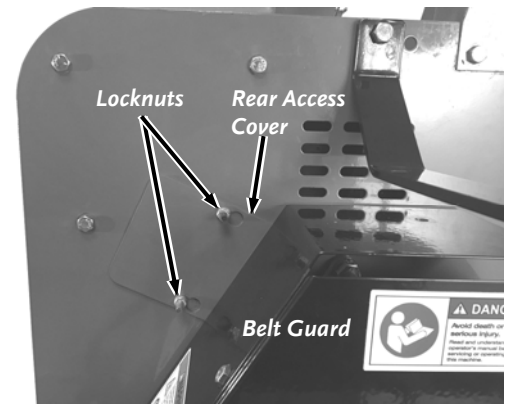

Figure 37
2. Loosen the Locknuts that secure the rear Access Cover with a 7/16" Wrench (**Figure 37**). Move the Cover over to align the larger portion of the hole with the Locknuts and remove the Cover.